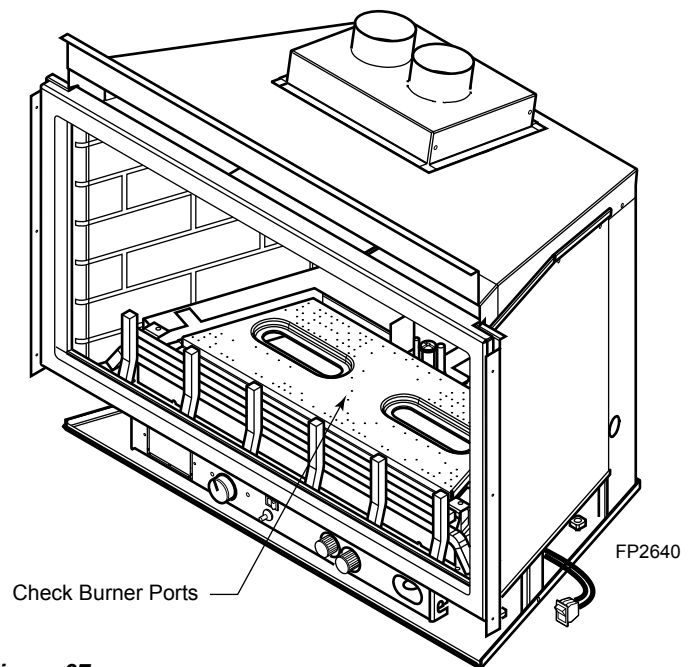

Figure 37 -
4. Clean burner and burner ports. *Figure 37*